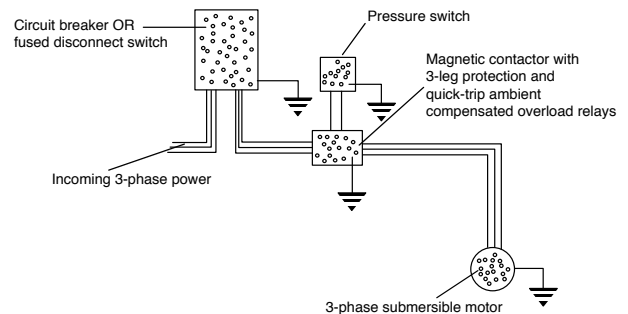

FIGURE 4
9. A three-wire, three-phase pump does not require a motor control box. Figure 4 shows a typical wiring diagram for a three-wire, three-phase installation. A magnetic contactor with three-leg protection and quick-trip ambient compensated overload relays must be used.